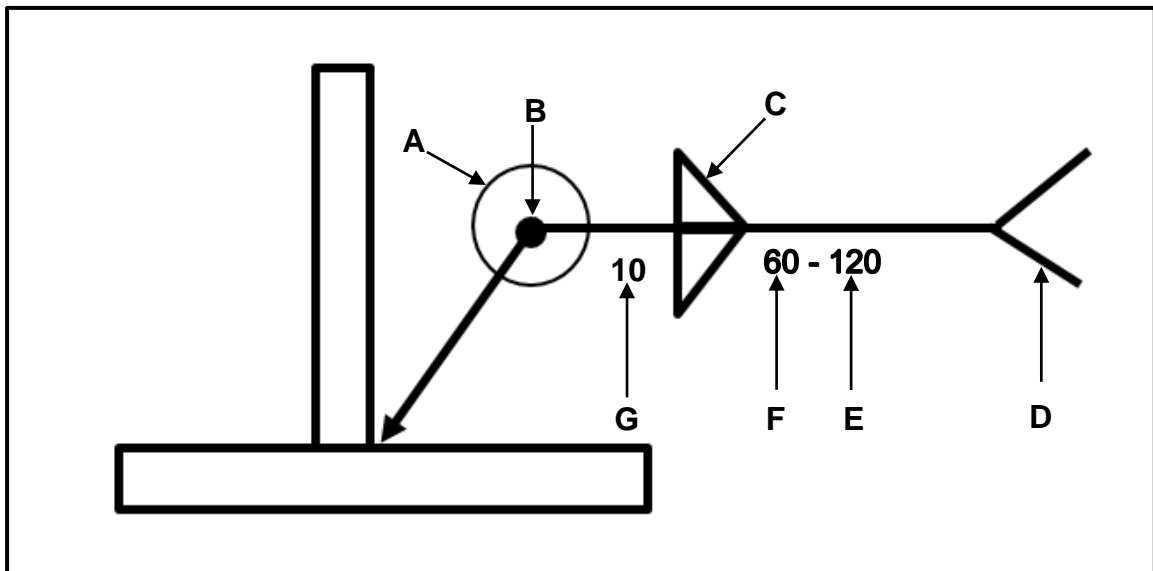

FIGURE 5.3
5.3 FIGURE 5.3 below shows a drawing with relevant welding information needed to manufacture a component.